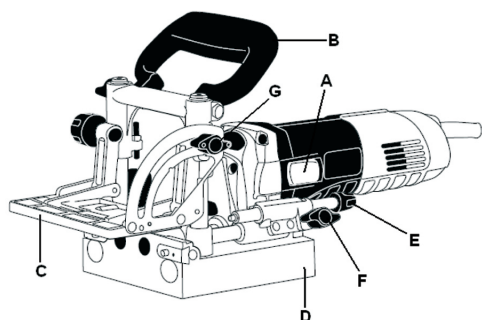

Fig.2
- K Stepped stop (Fig.2)
- N Bit fixing screw (Fig.2)
- O Vertical stop wing nut (Fig.2)
- Set the tool fitting with the **(N)** screws facing upwards (Fig. 2).